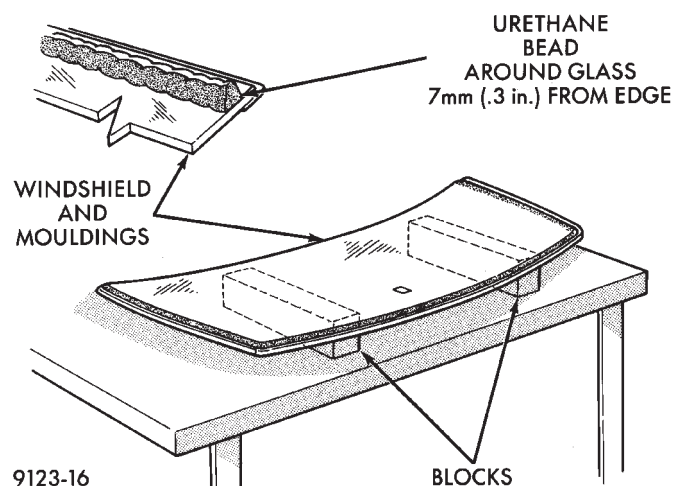
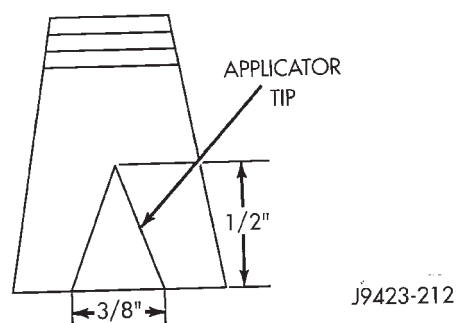

Fig. 4 Work Surface Set up and Molding Installation
Fig. 5 Applicator Tip
(2) Position the windshield inside up on a suitable work surface with two padded, wood 10 cm by 10 cm by 50 cm (4 in. by 4 in. by 20 in.) blocks, placed parallel 75 cm (2.5 ft.) apart (Fig. 4).
(3) Clean inside of windshield with MOPAR Glass Cleaner and lint-free cloth.
(4) Apply clear glass primer 25 mm (1 in.) wide around perimeter of windshield and wipe with a new clean and dry lint-free cloth.
(5) Apply the header molding to the windshield.
(6) Apply pinchweld primer 15 mm (.75 in.) wide around the windshield fence. Allow at least three minutes drying time.
(7) Apply a 13mm (1/2 in.) high and 10mm (3/8 in.) wide bead of urethane around the perimeter of windshield. At the bottom, apply the bead 7 mm (1/4 in.) inboard from the glass edge. On the three sides where the molding is on the glass, follow the edge of molding. The urethane bead should be shaped in a triangular cross-section, this can be achieved by notching the tip of the applicator (Fig. 5).
(8) With the aid of a helper, position the windshield over the windshield opening. Align the reference marks at the bottom of the windshield to the support spacers.
(9) Slowly lower windshield glass to the fence opening guiding the lower corners into proper posi-